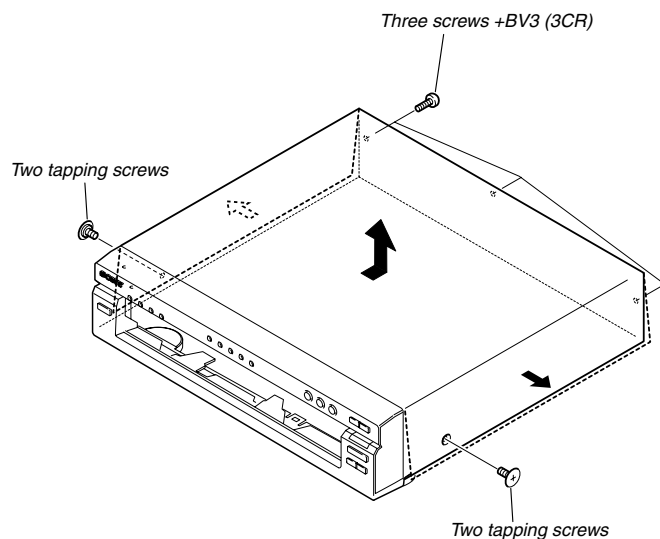

Fig. 1.
- 1) Remove the two tapping screws and three screws. (See Fig. 1)
- 2) Open the sides of case. (See Fig. 1)
- 3) Remove the upper case in the direction of the arrow ①. (See Fig. 1)